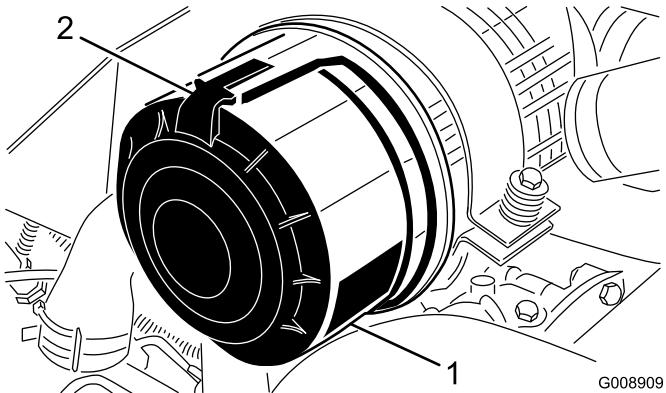

Figure 56
- Release the latches that secure the air cleaner cover to the air cleaner body (Figure 56).